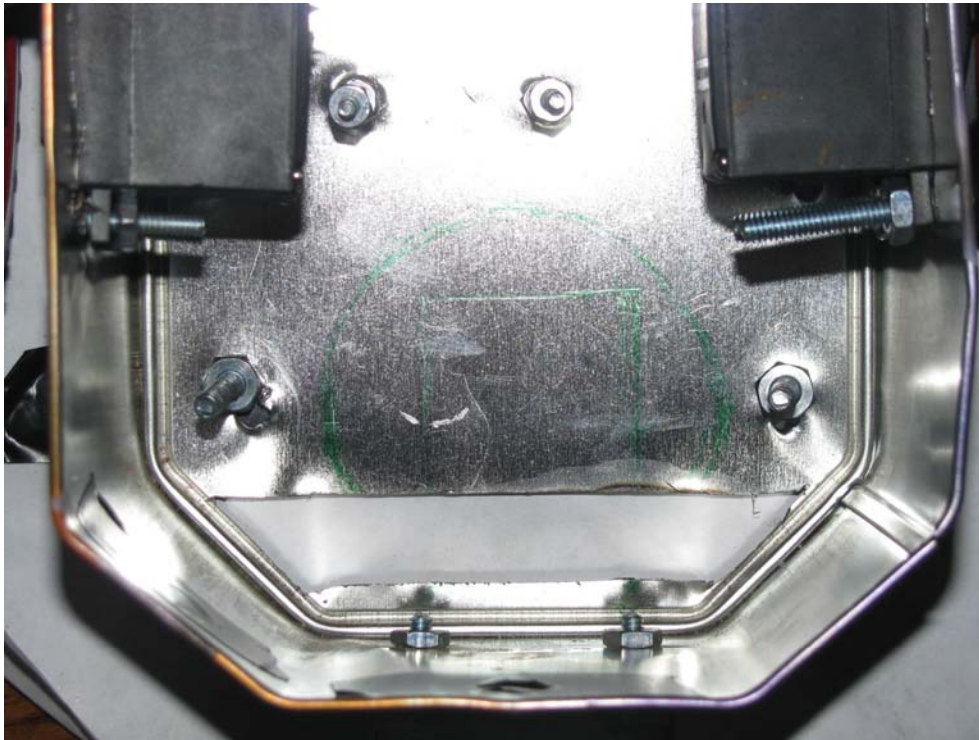

Figure 4-29. The hole cut for the IR sensor board to fit through the frame toward the ground
4. Next we need to cut an access hole for the IR sensors to peek through the bottom of the frame. This hole enables us to mount the sensor board inside of the frame. I had to clip the edges of my IR sensor board PCB with a pair of pliers to make it fit inside the odd-shaped tin. Measure the total outline of the IR sensors and mark a rectangle on the bottom of the tin (I positioned my sensor board at the front of the frame). This is where the IR sensors will poke through the bottom of the frame and detect the Line on the ground. Carefully cut this shape out with a Dremel tool (see Figure 4-29).